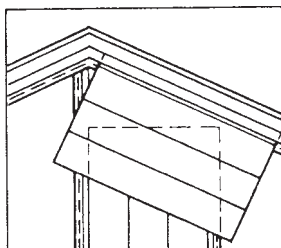

FIG. 27 Pattern Preparation for Gable End-Cuts
10.7 For application of vertical siding to gables, begin by nailing the vertical starter strip so that it will be centered with the peak of the gable. Make a pattern for end-cuts along the gables using two pieces of scrap siding. Lock one piece on the starter strip just under the eave. Hold the edge of the other piece against, and in line with, the roof line. Mark and cut the vertical piece. Use it as a pattern to mark and cut the ends of all other panels required for this side of the gable end. Make another pattern for the other side of the gable. (See Fig. 27.)